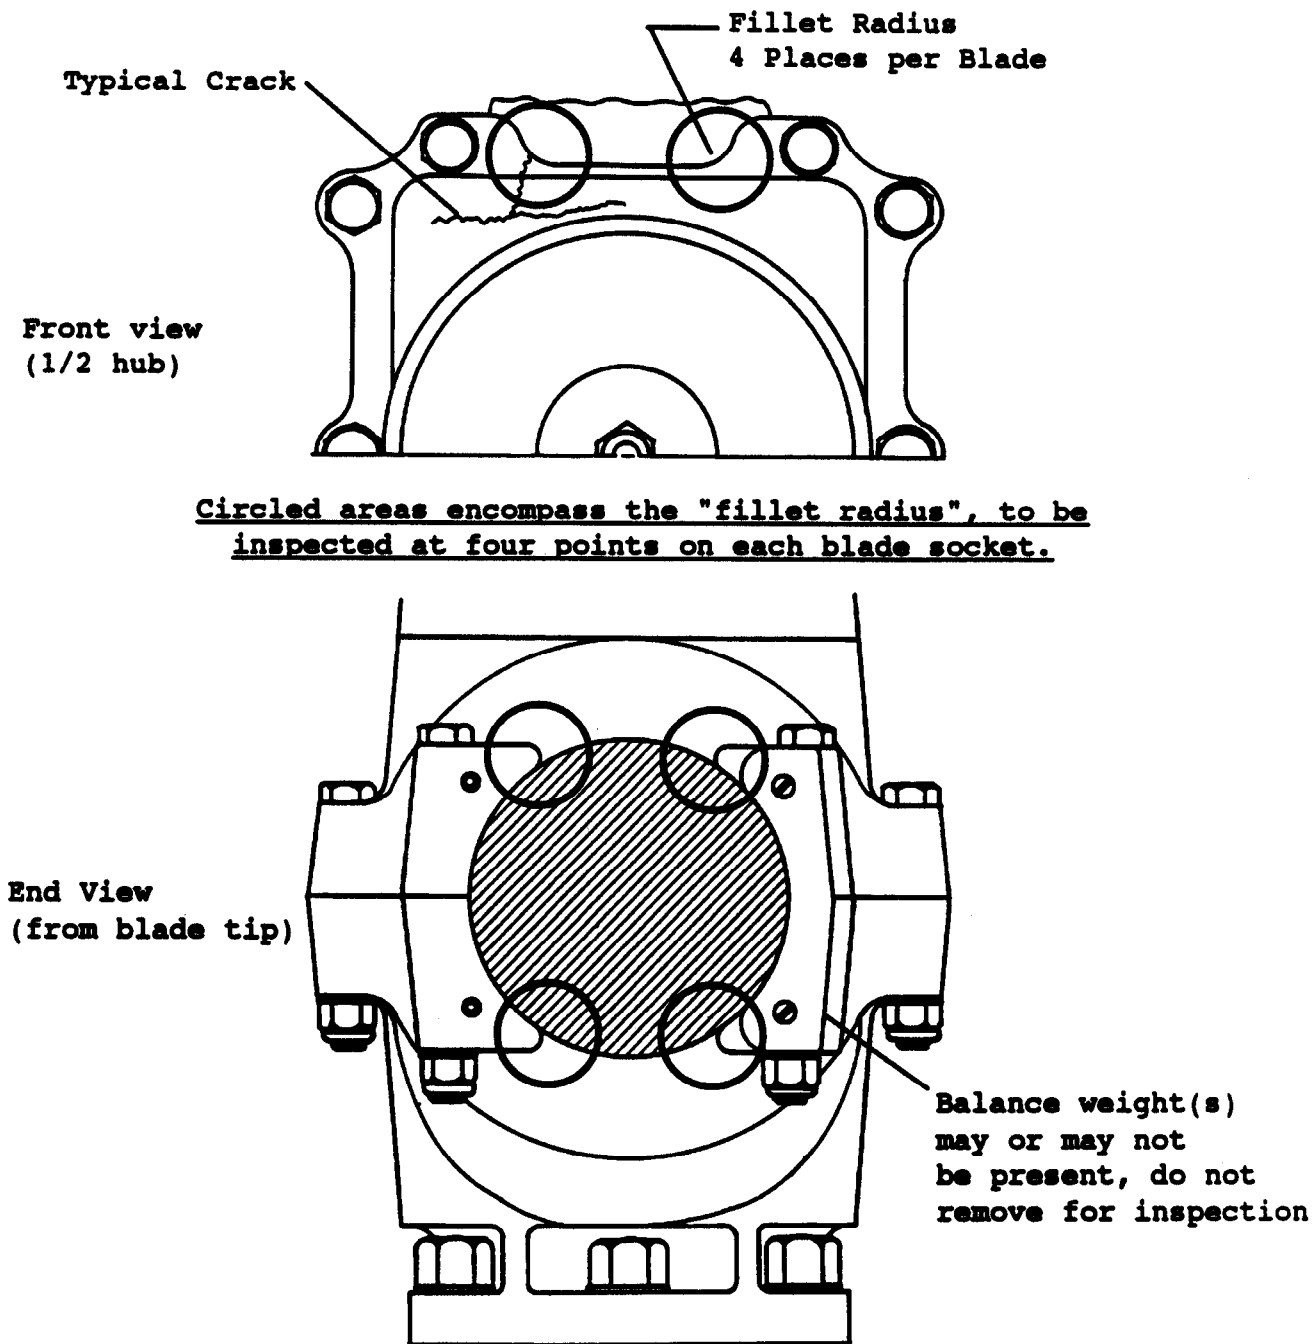

Figure 1. Hub Fillet Radius
3. Use 10X magnifying glass to perform careful visual inspection for hairline cracks in the fillet radius area as shown in Figure 1.